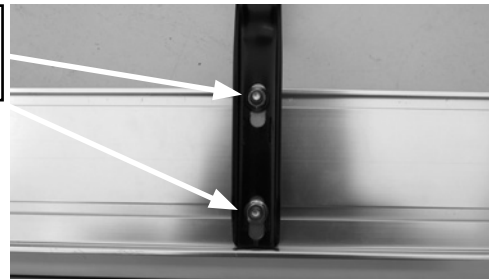

Figure 10
Position the driver's side running board onto bracket and center on vehicle. Adjust Running Board to be parallel with side of vehicle. Install (6) 5/16" flange nuts, (Figure 9 and Figure 10).